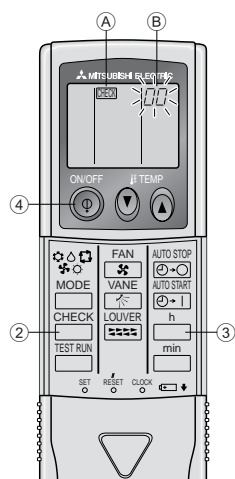

Fig. 7-4
7.3.2. Wireless remote controller (Fig. 7-4)
- ① Turn on the power.
- ② Press the  button twice. (Start this operation from the status of remote controller display turned off.)
- ③ While pointing the remote controller toward the unit's receiver, press the  button. The check code will be indicated by the number of times that the buzzer sounds from the receiver section and the number of blinks of the operation lamp.
- ④ Press the ON/OFF button to stop the self-check.